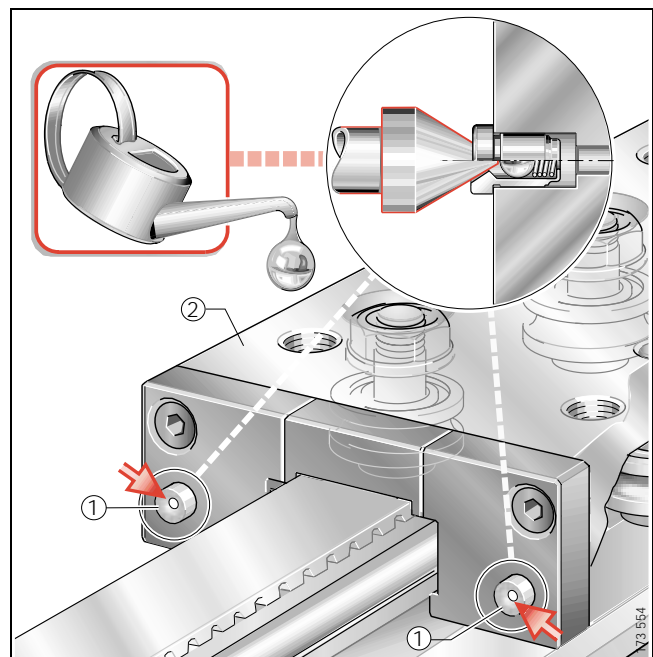

Figure 3 · Lubrication points
Relubrication should preferably be carried out with several partial quantities at various times instead of the complete quantity at the time of the relubrication interval. Relubrication is carried out via lubrication nipples on the end faces of the carriages ①, ② (Figure 3). The oil quantity according to Table 3 should be distributed evenly to all four lubrication points!